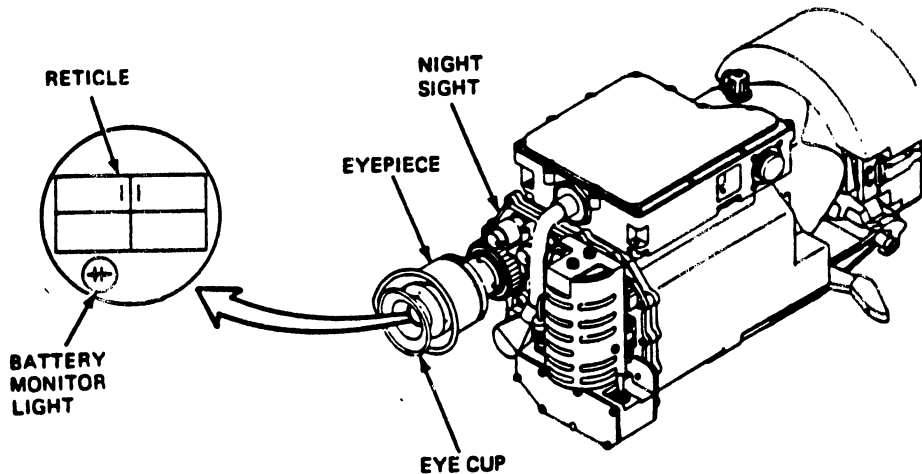

Fig 3-17. Night sight (reticle/battery monitor light).
Step 5. Adjust the diopter adjustment ring for the best focus of the reticle (fig 3-17).